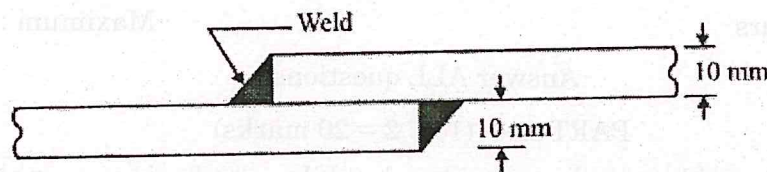

Figure. 1 Lap welded joint
14. (a) A lap welded joint is to be made as shown in figure. 1